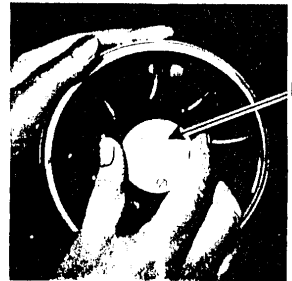

Fig. 15
- Hold machine pulley and loosen knurled screw K, Fig. 15.
- Tighten knurled screw K, Fig. 15.
**NOTE:** To wind bobbins while machine is stitching, follow instructions above but omit loosening of knurled screw K, Fig. 15.